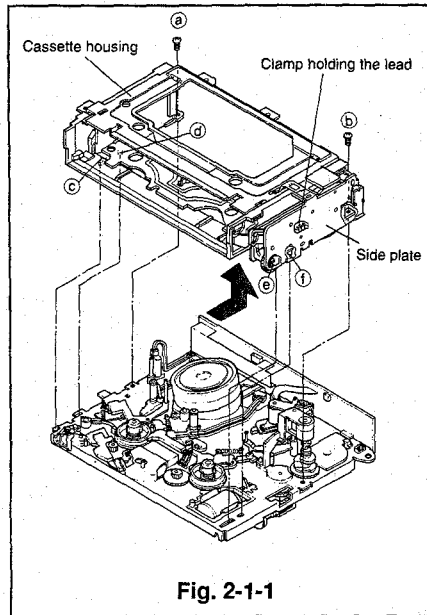

Fig. 2-1-1
- ① Set the VCR to the eject mode.
- ② Remove the top cover and the front panel.
- ③ Unfasten the clamp holding the lead of the loading motor, which is attached to the side plate of the cassette housing. Unscrew the two cassette housing fastening screws (a and b). Slowly raise the cassette housing in the direction shown by the arrow. (Refer to Fig. 2-1-1.)
(Refer to Fig. 2-1-1.)